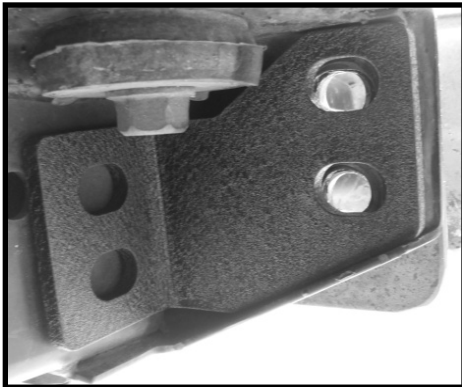
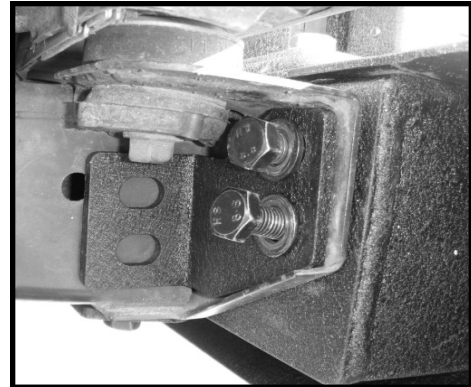

Figure 3.
Figure 4.
2. Place drivers' side-frame bracket in crossmember channel and line up holes (Figure 3). Place driver's side sub-frame against crossmember, and using the supplied M12 x 35 bolts and washers, attach the sub-frame to the vehicle (Figure 4). Do not tighten bolts at this time.